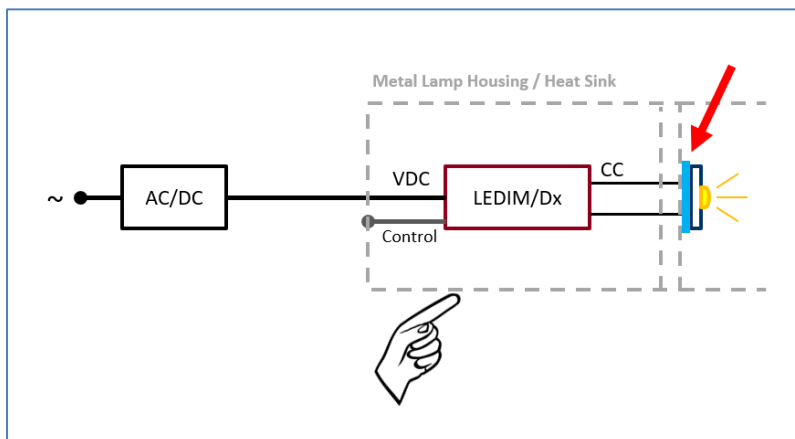

Figure 7: Critical Condition: Heat Sink connected to lamp housing with Alu PCB
- When the LED engine's PCB is made of Aluminum, it might be a critical condition to have the engine's heat sink electrically connected to the touch surface (e.g. the lamp housing). The parasitic capacity of the LED engine can cause malfunctions in touch dimming here. Please use thermal conducting pads⁴ instead of thermal paste (blue pad in Figure 7) to avoid.